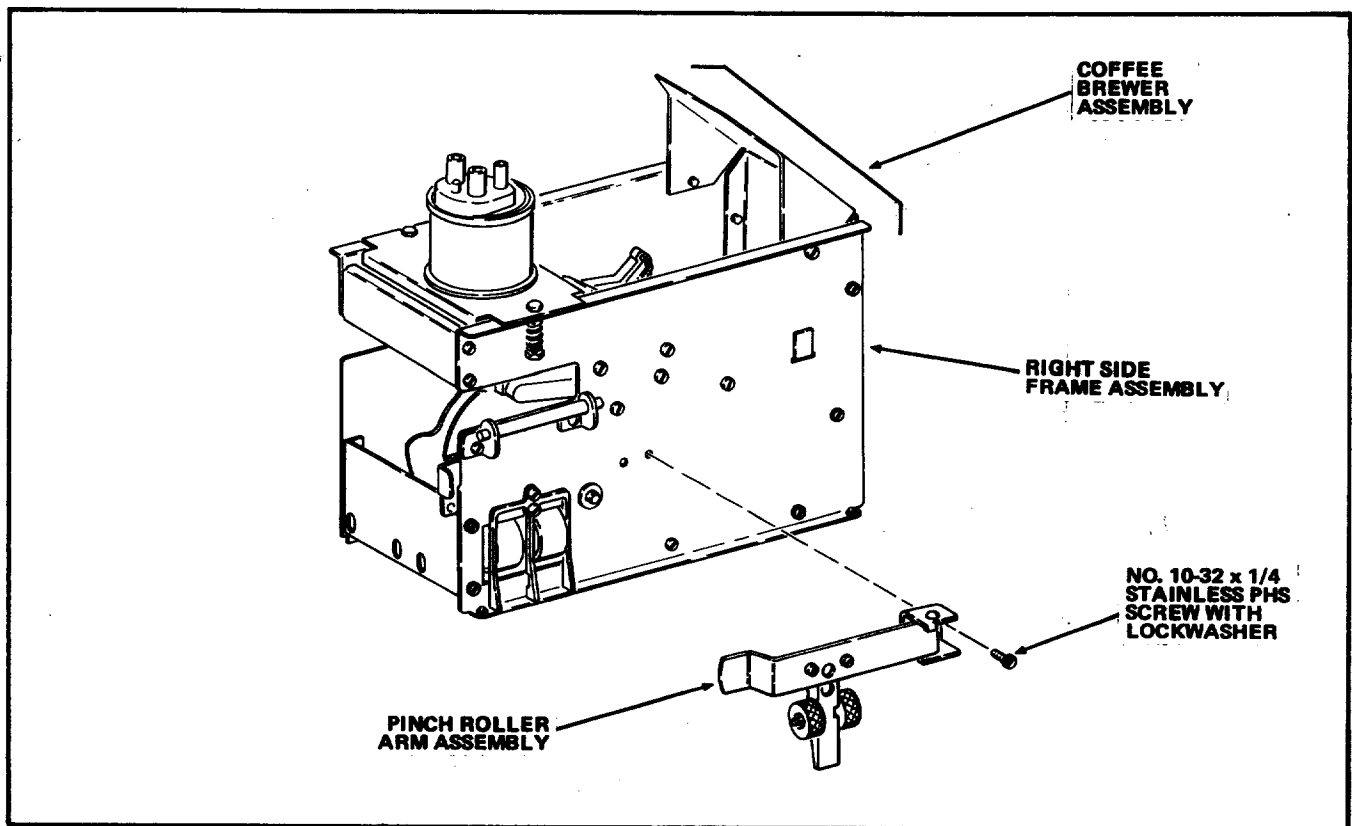

FIGURE 1
4. Remove a No.10-32 x 1/4 Stainless Pan Head Screw with Lockwasher and the Pinch Roller Arm Assembly from the Right Side Frame Assembly of the Coffee Brewer Assembly See Figure 1.